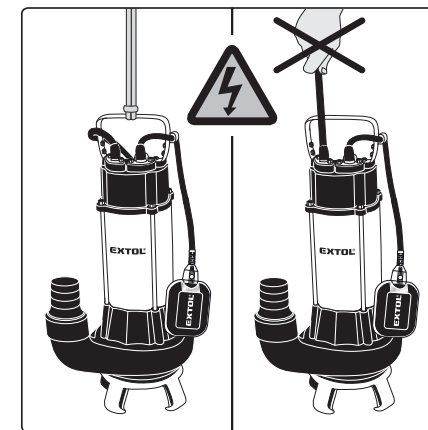

Fig. 5, illustrative figure
4. Securely attach a suspension rope/cable (fig. 5) on to the handle of the pump (fig. 1 / fig. 2, position 2); the pump will be lowered into the pumped water using this rope/cable.
7. Gradually lower the pump suspended on the rope/cable into the water (fig. 5) so that the pump is submerged as much as possible with respect to the water level, however, ensuring that the maximum permitted submersion depth is not exceeded (see table 1). The pump must not be lowered into the water by holding the power cord, but only by the rope/cable that is tied to the handle, because lowering the pump into the water by the power cord could result in compromising the seal around the power cord at its entry into the pump and lead to the ingress of water into the electrical part of the pump and injury or death of persons by electrical shock.